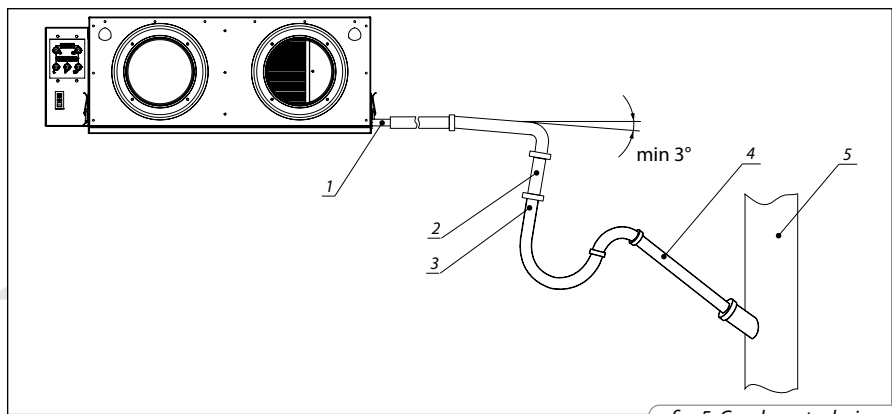

fig. 5. Condensate drainage
The Vents Frigate HRV 120 S unit is equipped with a condensate drain hose for condensate drainage (fig. 5). Connect the drain hose (1), U-trap (3) and drain system (5) with metal, plastic or rubber pipes (2 and 4). The pipes must be sloped down at least by 3° . Before starting operation of the unit fill the system with water and check that U-trap is always filled with water. Make sure that the water drainage is correct, otherwise some condensate may be accumulated inside the unit and provoke subsequent equipment damage and water ingress to the room. The condensate drainage system is designed for operation at the ambient temperature above 32°F (0°C). If the ambient temperature is below 32°F (0°C), insulate the drain system and provide air heating.